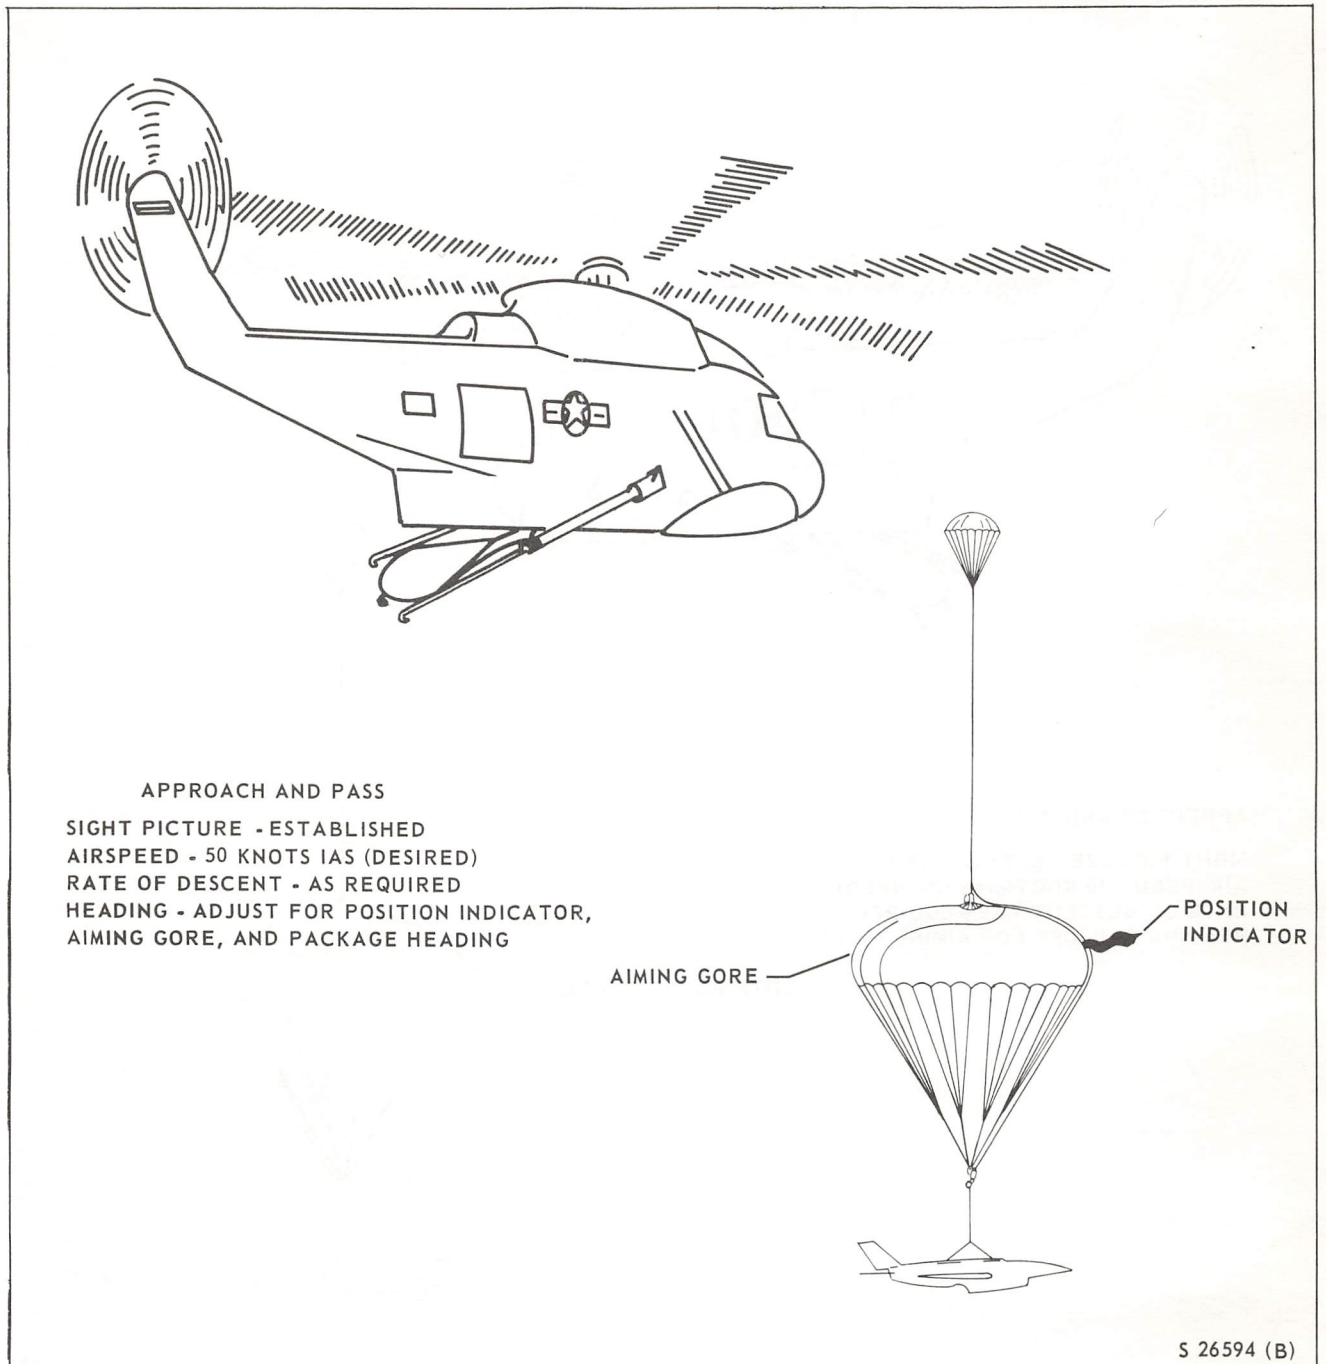

Figure 3-7. Helicopter Approach and Pass (Typical AQM-91 Configuration)
**PASSES.** The desired airspeed for engagement is 50 knots IAS. Successful engagements can be expected between 45 to 60 knots IAS. After establishment of the approach, additional corrections may be required to place the engagement chute within the limits of the poles and the loop and hook assembly engagement window (see figures 3-7 and 3-8). The window extends approximately twelve feet below the helicopter and is twelve feet wide at the pole hooks. The flying hook is suspended midway between the pole hooks and at approximately